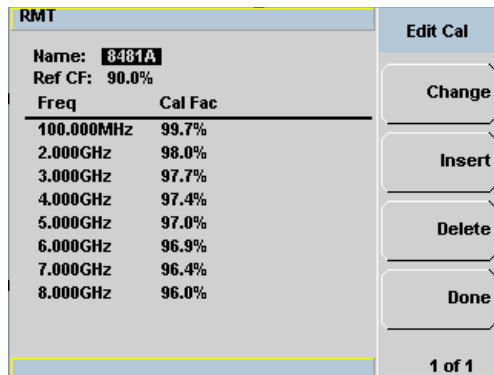

Figure 8-12 “Edit Cal” display
- 2 Choose the table you want to edit using the  and  keys. Press **Edit Table** to display the **Edit Cal** screen as shown in Figure 8-12.